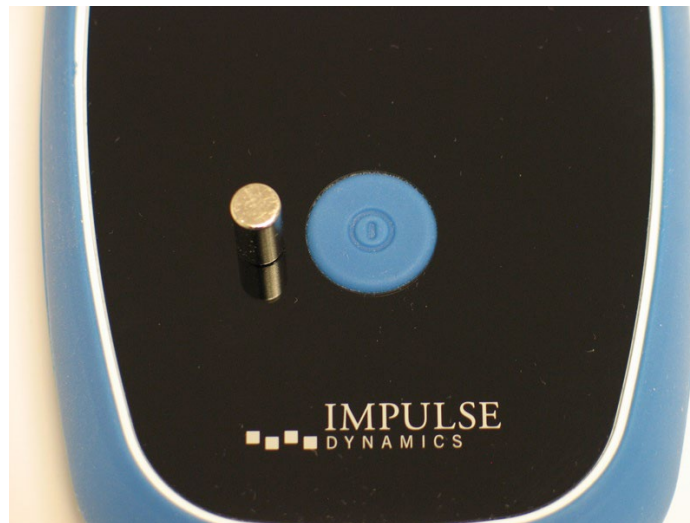

Figure 55: Pairing Magnet on Guardio Charger
3. Place a pairing magnet (or a standard pacemaker magnet) to the left of the **Power Button** on the Guardio Charger. **See Figure 55.**